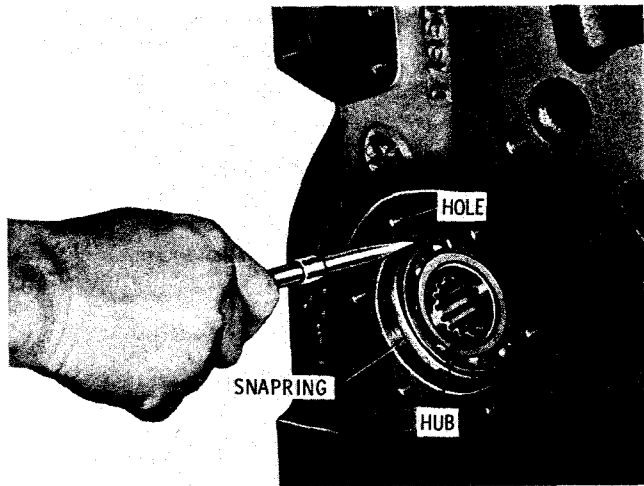

Fig. 7-58. Installing pump drive gear hub bearing snapping S1703
(4) Tap on the gear hub to seat it in the pump drive gear. Secure the bearing with the snapping (fig. 7-58). Install the pump drive gear hub gasket and cover (refer to fig. 5-36) onto the converter housing and install six 3/8-16 x 7/8-inch bolts and lockwashers in holes provided in the housing. Tighten the bolts to 26 to 32 pound feet torque.